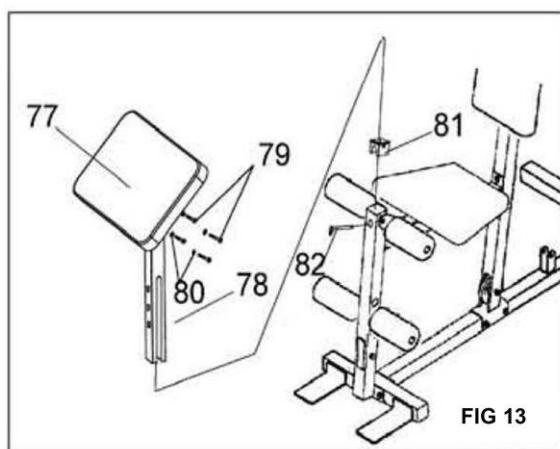
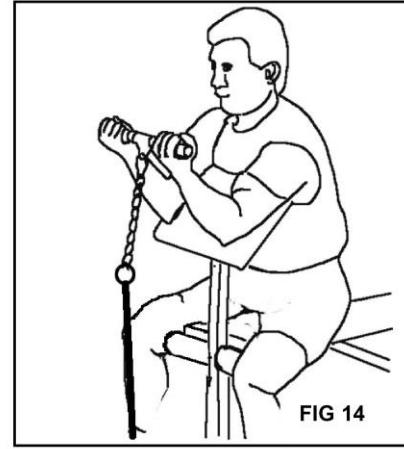

FIG 13
FIG 14
FIG.13: Insert the Slider (81) into the Leg Extension Arm (11) , Attach Arm Pad(77) to Arm Pad Frame (78) with four Bolt (79) and four Washer (80). For Movement demonstrate (fig.14), Insert Arm Pad assembly to the Leg Extension (11), and Insert Pin(82) through Leg Extension(11) and Arm Pad Frame(78), as shown left drawing. If no Movement demonstrate (fig.14), Please Move Arm Pad assembly from Leg Extension (11).